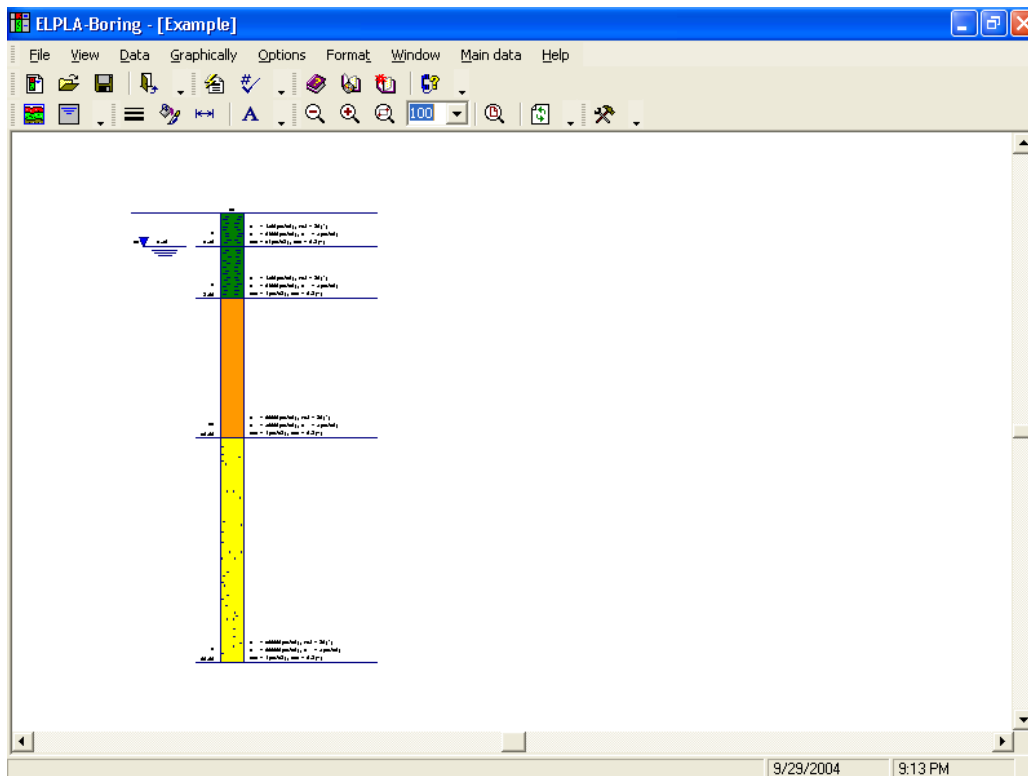
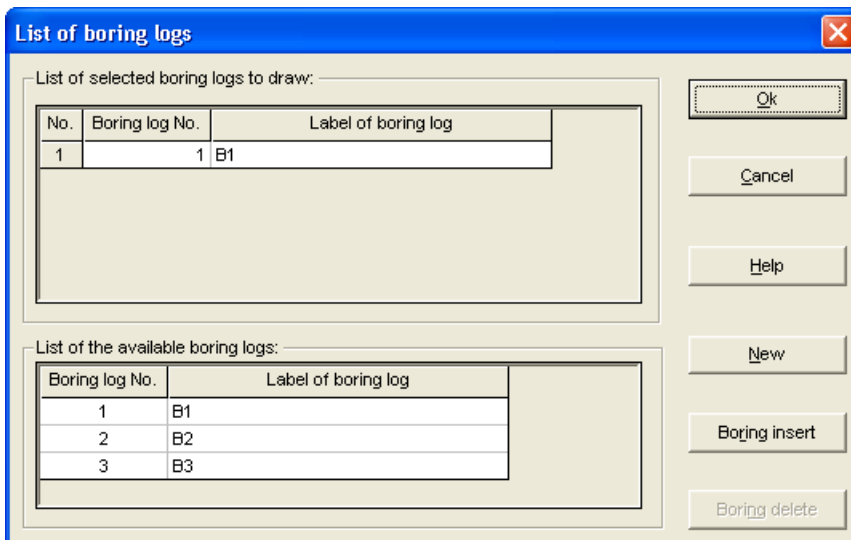
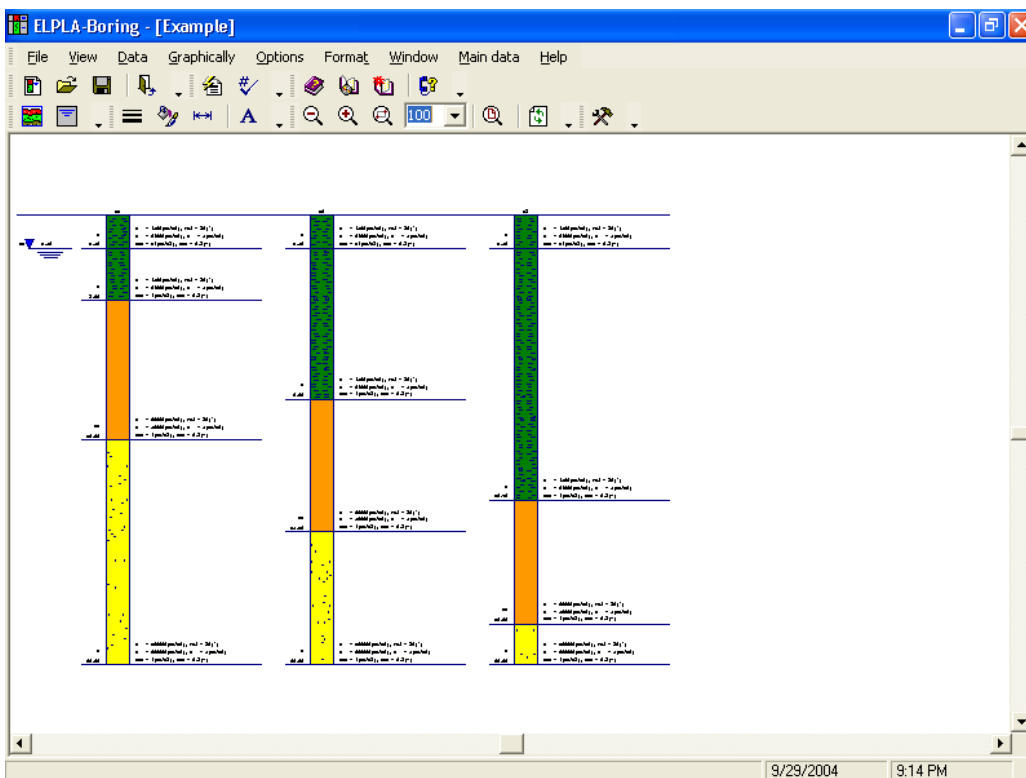
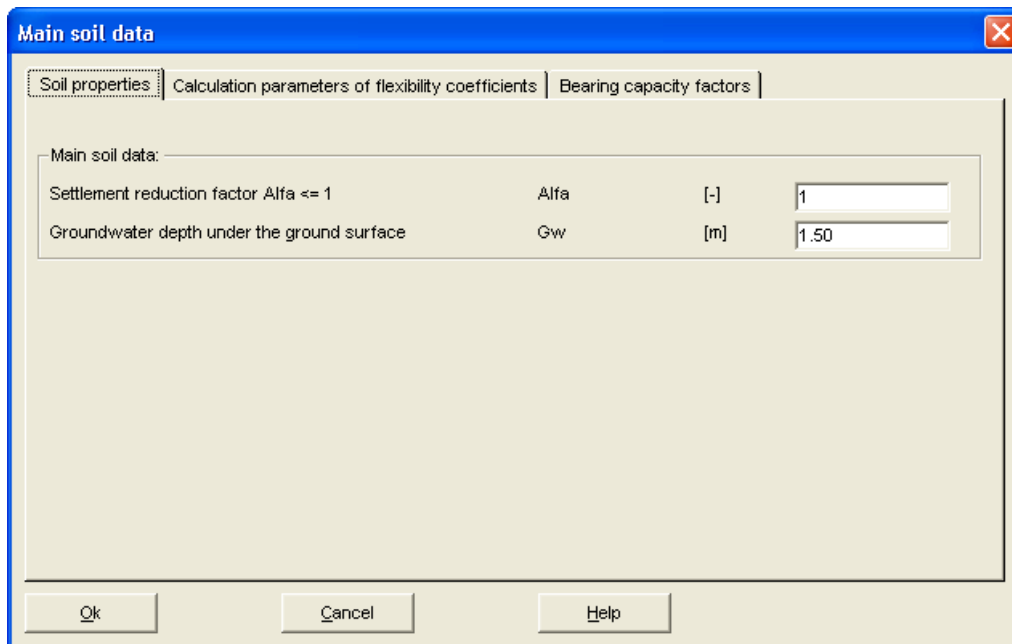

Figure 1-18 First boring log on the screen
Figure 1-19 "List of boring logs" list box
Figure 1-20 Boring logs on the screen
Figure 1-21 "Main soil data" dialog box
Now, after finishing the creation of boring logs, click "OK" button in "Soil data" dialog box in Figure 1-17 to see the defined boring logs on the screen where the user can control or modify the input data and parameters. As a default plot parameter, *ELPLA* displays only the first boring log on the screen (Figure 1-18).
To display all boring logs or specified boring logs on the screen, choose "Drawing boring logs" command from "Graphically" menu in Figure 1-18. The following list box in Figure 1-19 appears.
- Select the boring log that is required to be displayed from the list of the available boring logs in Figure 1-19
- Click "OK" button in Figure 1-19. The selected boring logs appear on the screen to control or modify the boring data graphically, Figure 1-20
To enter the main soil data for all layers, choose "Main soil data" command from "Data" menu in Figure 1-20. The following dialog box in Figure 1-21 appears with default main soil data. The main soil data for the current example, which are required to be defined, are the settlement reduction factor  $\alpha$  [-] and the groundwater depth under the ground surface  $G_w$  [m]. Any other data corresponding to main soil data are not required in this example. Therefore, the user can take these data from the default soil properties.
In the dialog box of Figure 1-21 enter the settlement reduction factor  $\alpha$  [-] and the groundwater depth under the ground surface  $G_w$  [m]. Then click "OK" button.
- Choose "Save boring logs" command from "File" menu in Figure 1-20 to save the data of boring logs
- Choose "Close boring logs" command from "File" menu in Figure 1-20 to close the sub program *ELPLA-Boring* and return to the main window of *ELPLA-Data*